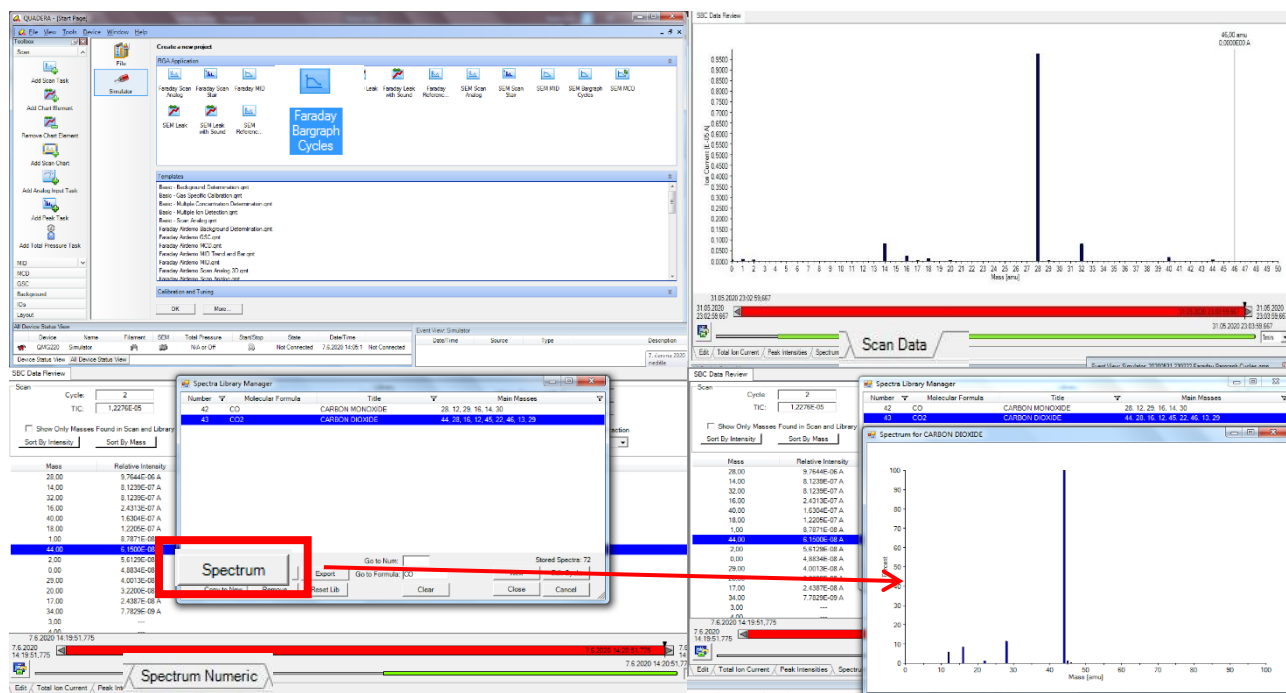
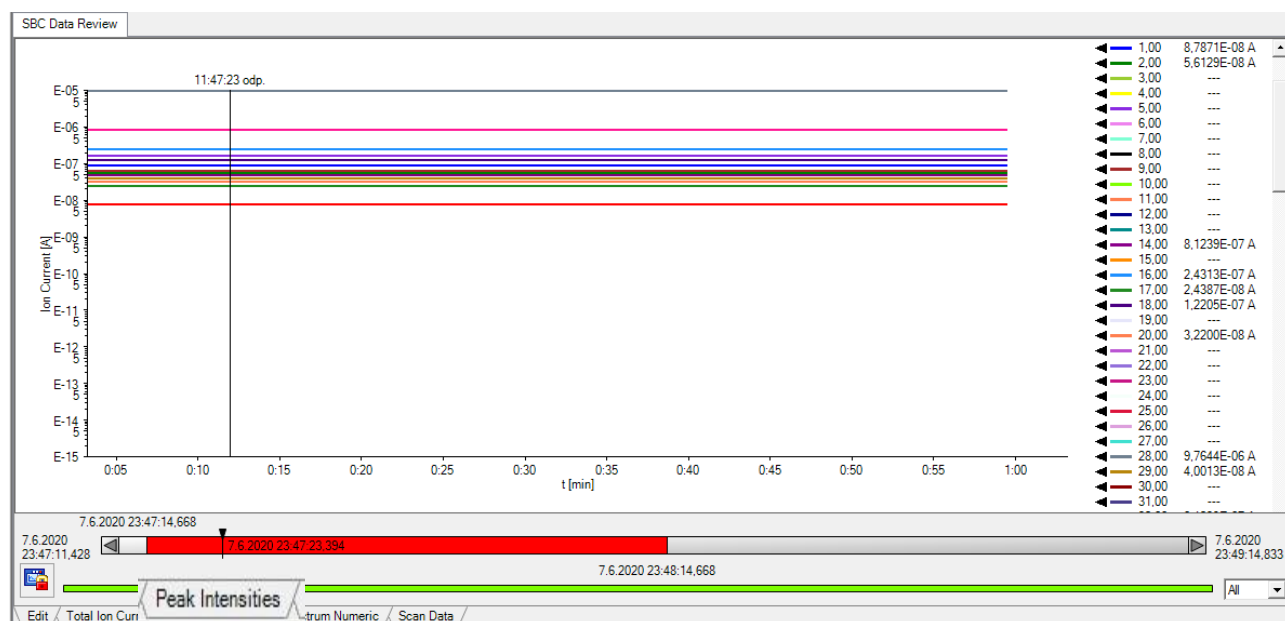

Figure 103: Bargraph scan and relationship with Spectrum Library
Figure 104: Analog scan as function of time
- **Bargraph Cycles** - a separate measurement project can be used to plot analog scans against time. The basic graph is a mass scan at the selected mass range. The scan can then be related to the timeline. The project also works closely with the spectrum library stored in the Quadera software. Theoretical mass spectra can be compared with real sample spectra and used for the identification of unknown components (**Figure 103, Figure 104**).